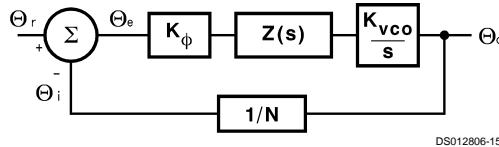
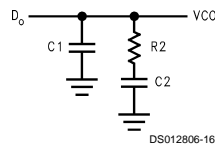

FIGURE 2. PLL Linear Model
FIGURE 3. Passive Loop Filter
A linear control system model of the phase feedback for a PLL in the locked state is shown in *Figure 2*. The open loop gain is the product of the phase comparator gain ( $K_\phi$ ), the VCO gain ( $K_{VCO}/s$ ), and the loop filter gain  $Z(s)$  divided by the gain of the feedback counter modulus ( $N$ ). The passive loop filter configuration used is displayed in *Figure 3*, while the complex impedance of the filter is given in *Equation (1)*.